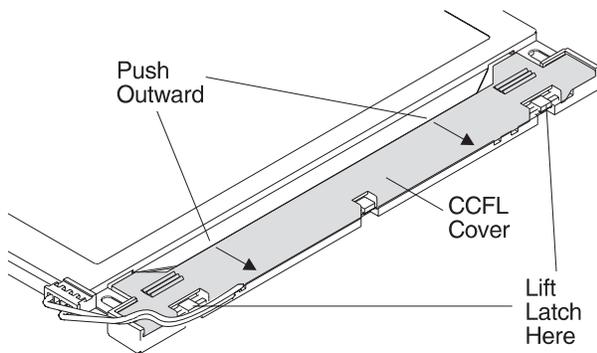

Figure 3-5. Opening the CCFL Front Cover
- 3** Remove the CCFL cover by lifting the latches and pushing the cover outward as shown in Figure 3-5.
- b. Be sure that CCFL cables are seated completely into the groove and routed over the corner of the cover as shown in Figure 3-5.